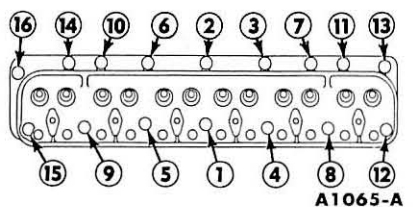

FIG. 38—Cylinder Head Bolt Tightening Sequence
9. The cylinder head bolts are tightened in three progressive steps. Follow the sequence shown in Fig. 38. Tighten the bolts to 55 foot-pounds torque, then tighten them to 65 foot-pounds torque. Finally, tighten the bolts to 75 foot-pounds torque. **After the cylinder head bolts have been tightened to specifications, the bolts should not be disturbed.**